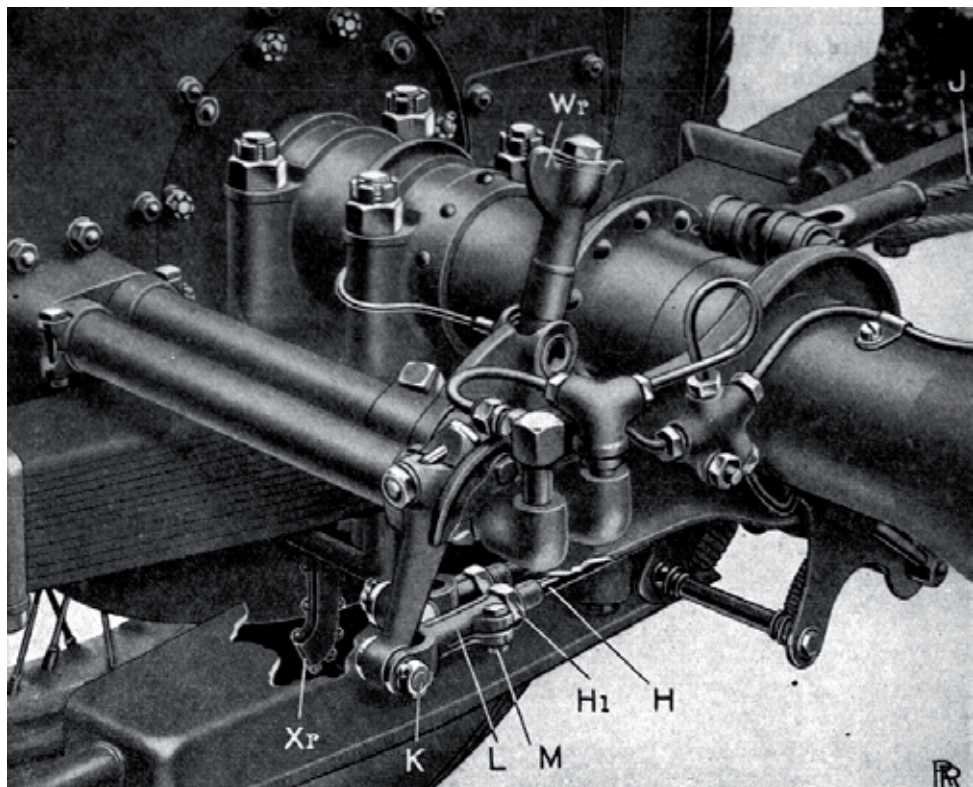

Fig. 18. - REAR BRAKE ADJUSTMENTS.
2. Hand brake The threaded rods coupled to the cam operating levers below the rear axle (Fig. 18).